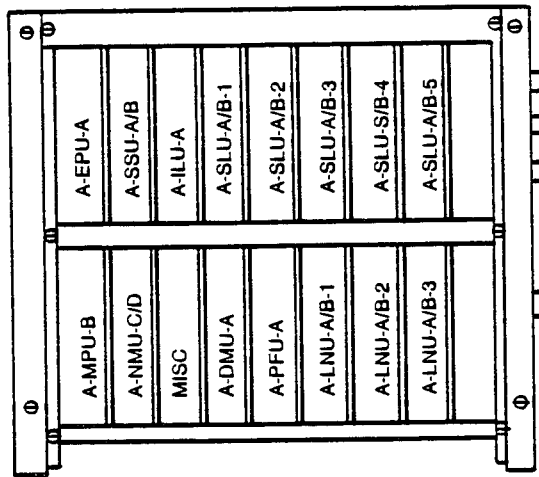
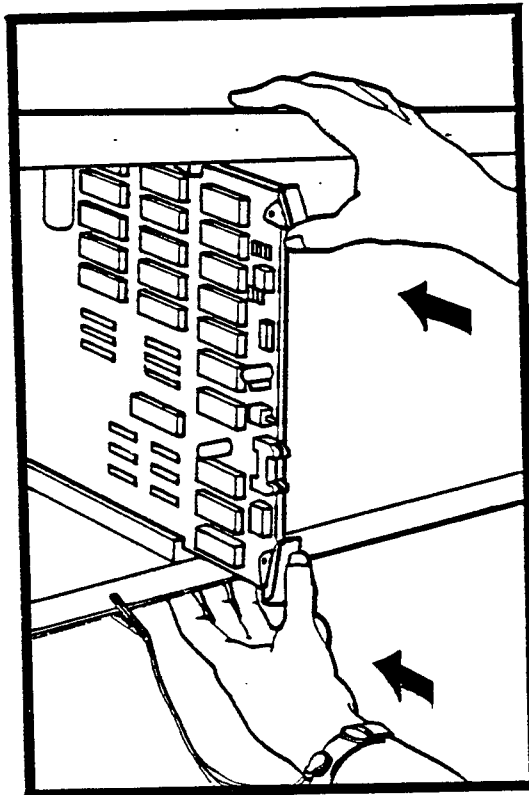

Figure 5-5 TC-8 KSU PCB ARRANGEMENT
Figure 5-6 INSERTING PCB INTO KSU
5.05 The PCBs are keyed so that they only fit in their proper slot (Figure 5-5). When inserting the PCBs, the connector edge goes into the slot first with the component side of the PCB to the installers left (Figure 5-6).
5.06 PCBs should be installed with the thumb of each hand on the PCB pulls and the fingers on the KSU frame (Figure 5-6). Push the PCB until firmly seated. Do not use the heel of your hand or any tool to hammer a PCB into a connector.